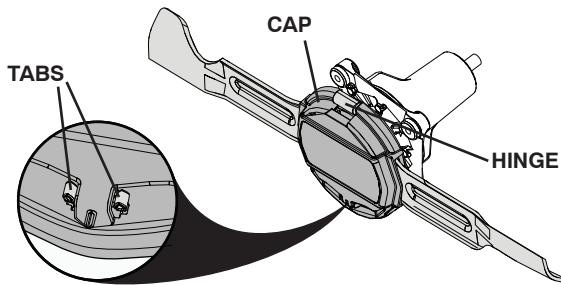

Fig. 19
## BLADE REPLACEMENT (See Figs. 19 - 24)
- Squeeze tabs inward to release cap. Remove by lifting cap from hinge and set aside. (See Fig. 19.)